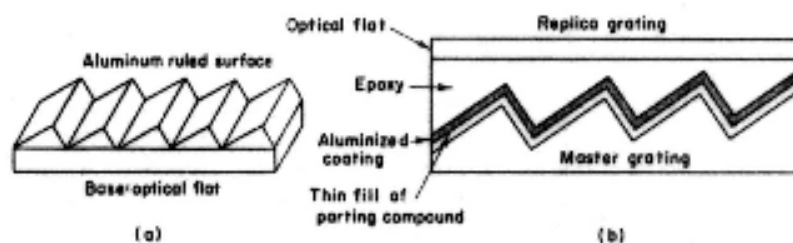
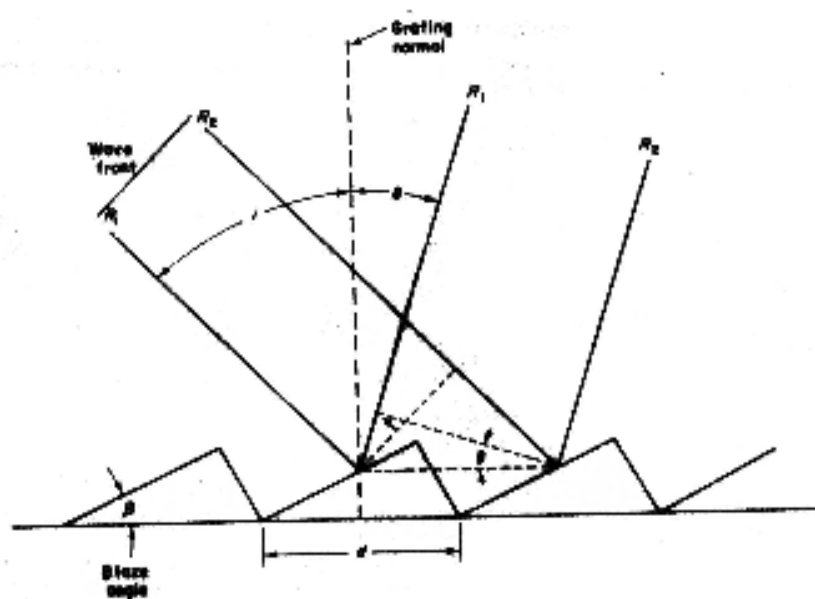

Figure-6
Figure-7
1.4.9 GRATING ; Dispersal of light may also be obtained by means of a diffraction grating. In single beam spectrophotometers generally grating is used as a dispersive device. A grating consists of a large number of parallel lines (actually grooves) ruled at extremely close intervals, perhaps 15000 or 30000 lines per inch, on a highly polished surface e.g. Aluminum. Ruling numbers from 20 grooves/mm in far infrared too as many as 3600 or more grooves/mm for the visible and ultraviolet regions. Grating offer better discrimination than prism, and wave length calibration curve is linear. View of master grating and interference of rays from grating are shown in figure-6 and figure-7